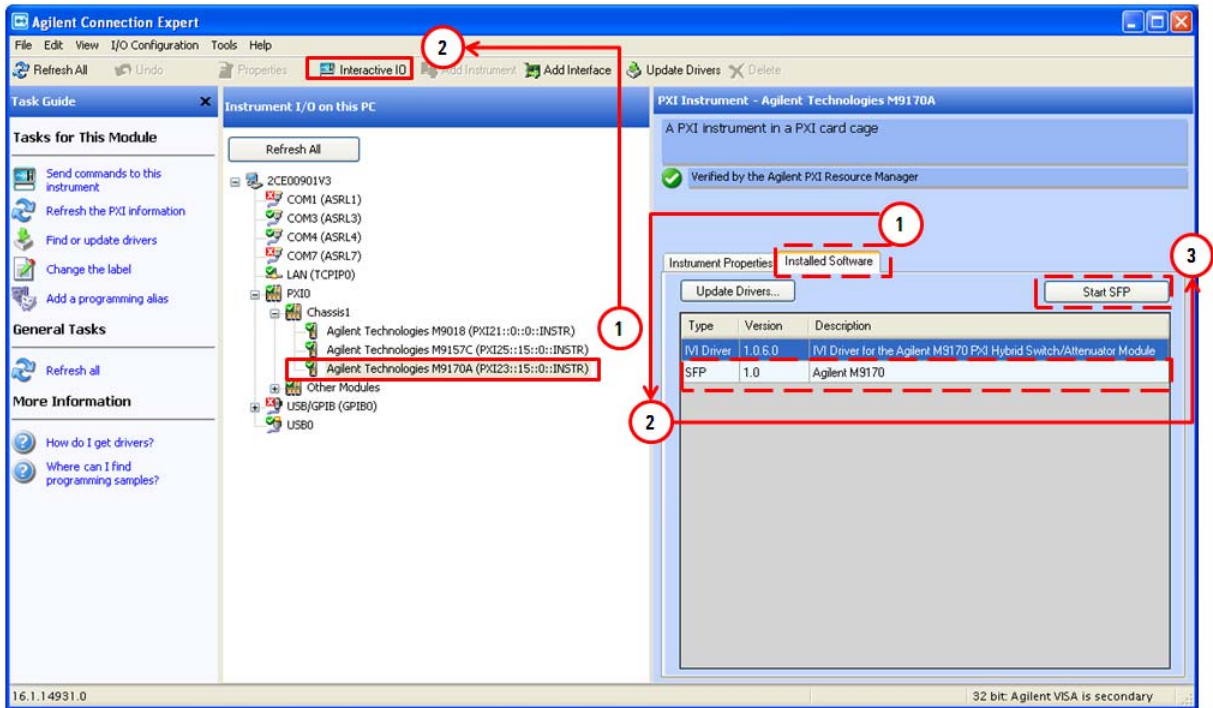

Figure 1-2 Launching the SFP from the Keysight Connection Expert
- 2 Launch the soft front panel (SFP) software from **Start > All Programs > Keysight > M9170A > M9170A SFP** or from the Keysight Connection Expert. On the Keysight Connection Expert, select the respective M9170A module and click **Interactive IO** or **Installed Software**, as shown in **Figure 1-2**. If you click **Interactive IO**, the SFP will launch. If you click **Installed Software**, select the SFP row and click **Start SFP** to launch the SFP.